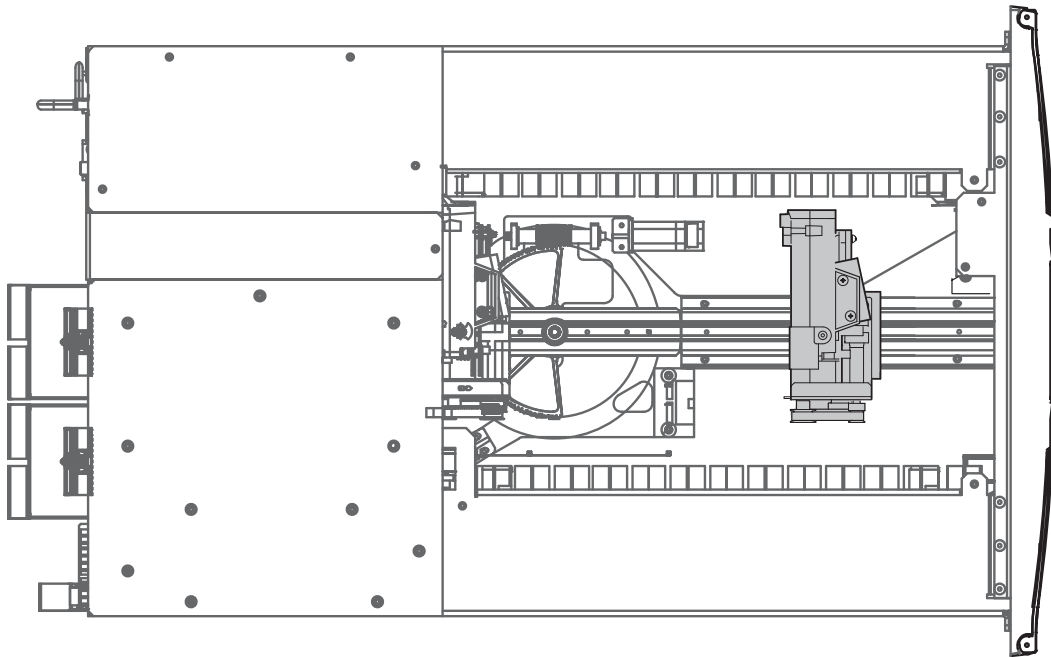

Figure 3–3: Shuttle assembly in the parked position
2. Look through the view port at the front of the library to determine if the shuttle assembly is in the parked position (see Figure 3–3 and Figure 3–4).